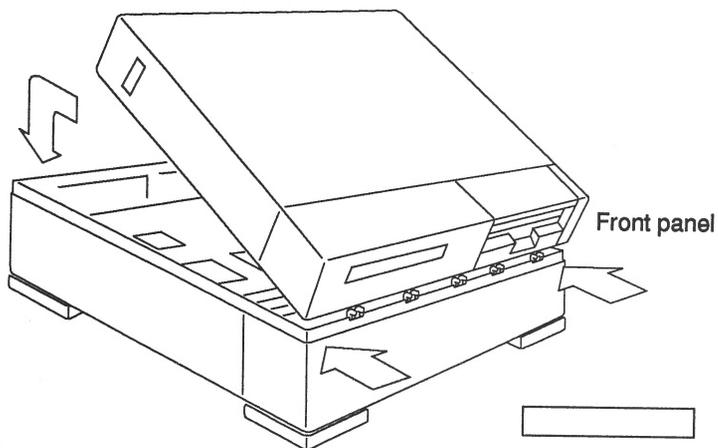

Figure 6-11 Closing the System Unit
- 3. Grasp the unit top near the power supply. Refer to Figure 6-11.**
4. Reconnect the unit's top and bottom. Refer to Figure 6-11.